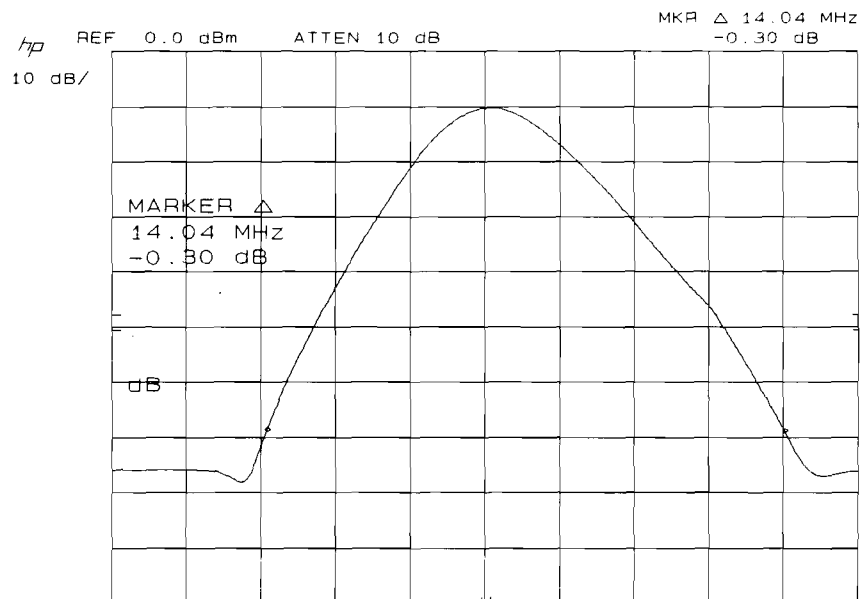

Figure 4-4. 60 dB Bandwidth Measurement
4. Press MARKER **(NORMAL)** and position marker at peak of signal trace. Press MARKER **(Δ)** and position movable marker 60 dB down from the stationary marker on the positive-going edge of the signal trace (the MARKER Δ amplitude readout should be -60.00 dB ±1.00 dB). It may be necessary to press SWEEP **(CONT)** and adjust **(CENTER FREQUENCY)** so that both 60 dB points are displayed. (See Figure 4-4.)
6. Read the 60 dB bandwidth for the 3 MHz resolution bandwidth setting from the MARKER Δ frequency readout (Figure 4-4) and record the value in Table 4-4.